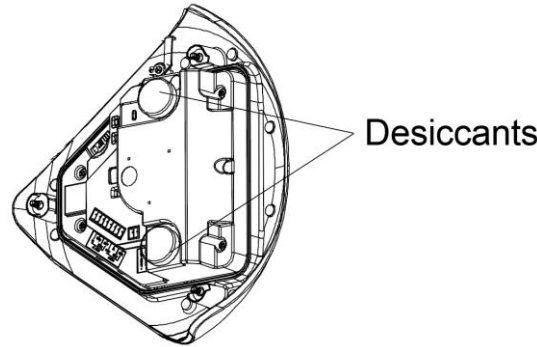

Figure 7
9. Insert the two desiccant bags (Figure 7) into the two slots on the camera top cover.